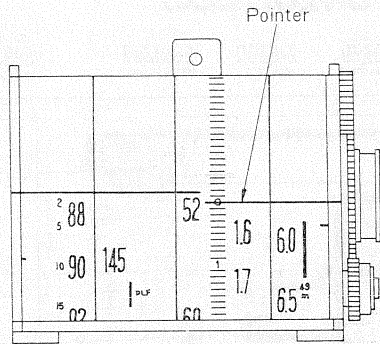

Fig. 6
9. Align the start point of the dial scale with the pointer of transparent cover, as shown in fig. 6.